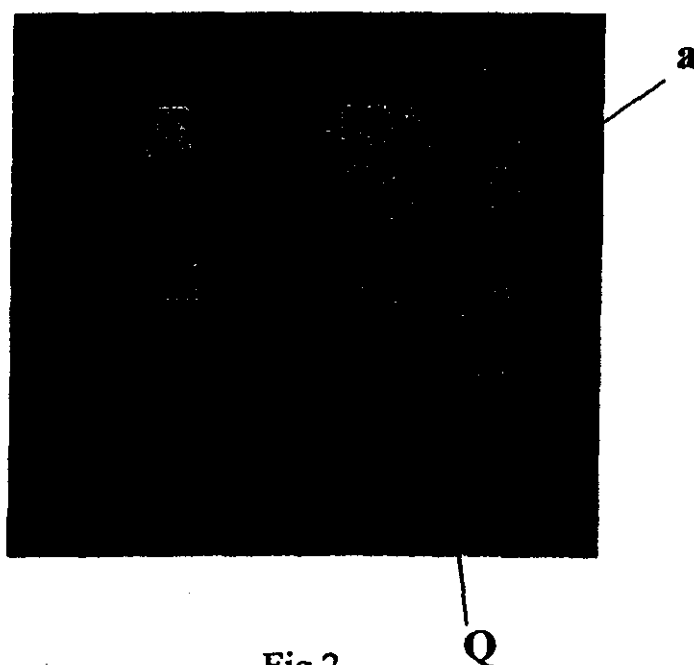

Fig.2
- Loosen set screw **a** • (Fig.2)
- With tool insert a hole of the saddle guide adjustor **Q** right and left direction turn , large hook can forward and backward adjusting • (Fig.2)